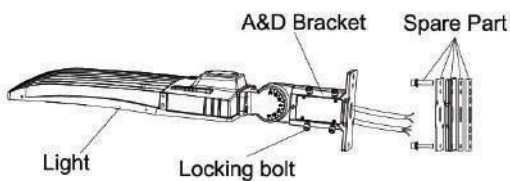

Figure 24
Step 1: Remove the spare parts from A&D bracket. (Figure 24)